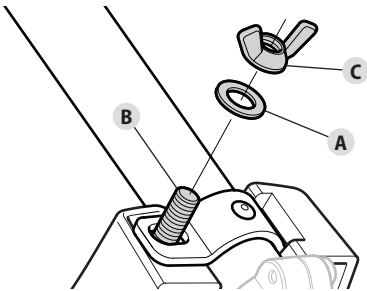

Fig. 4
4. Place the washer (Fig. 4-A) onto the bolt (Fig. 4-B).
5. Screw the wing nut (Fig. 4-C) onto the bolt until the cutting head shield is firmly in place.